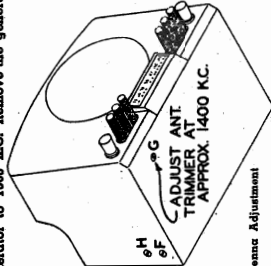

Fig. 4. Antenna Adjustment
R.F. — The tuning condenser is rotated until the plates are completely out of mesh (1580 K.C.) Set the signal generator to 1580 K.C. Remove the generator leads from the R.F. tube, remove the .1 mfd condenser from the leads, and connect the leads to a Zenith dummy antenna, part No. S7894 to the antenna socket on the receiver. The high frequency oscillator trimmer F (see Fig. 4) is then pecked for maximum response on the output meter. Reset the signal generator to 1400 K.C., rotate the tuning control until a signal is heard, and adjust the 1400 antenna trimmer G (Fig. 4) for maximum response. Reset the signal generator to 800 K.C. and rotate the tuning control until a signal is heard. The condenser gang is then rocked slightly when adjusting the 800 K.C. oscillator paddler H (see Fig. 4) to maximum resonance on the output meter.